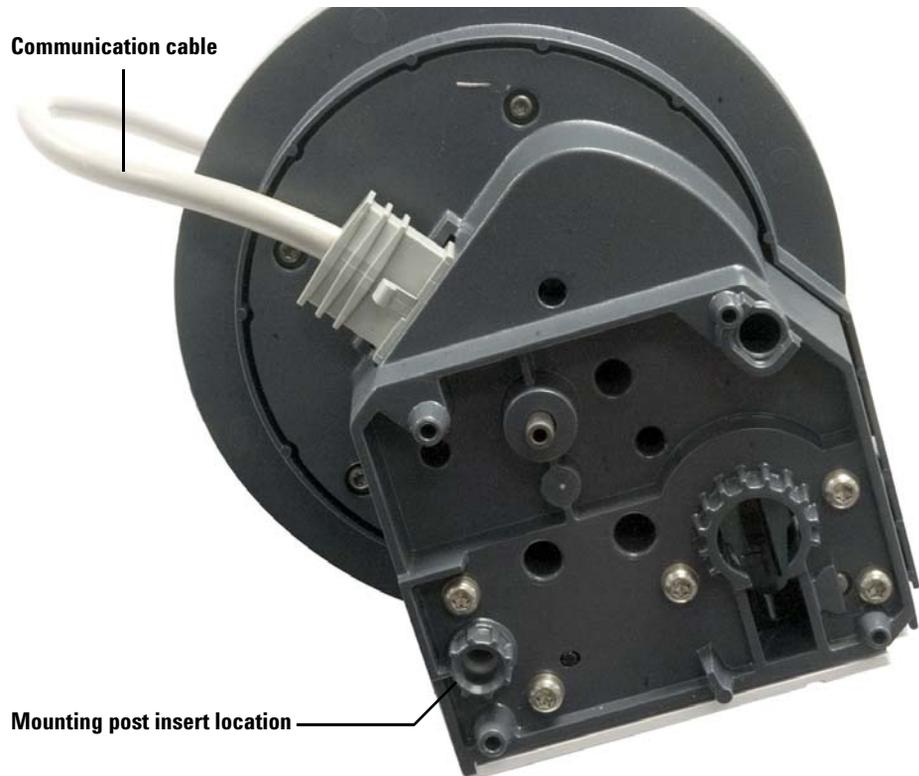

Figure 19 Communication cable and mounting post insert locations
- 2 Plug the communication cable into the front Tower (Figure 19). If you installed the G4521A Large Volume Syringe Carrier into a Tower, use that Tower as the front Tower.
Note the location of the mounting post insert location in the Tower base (Figure 19).